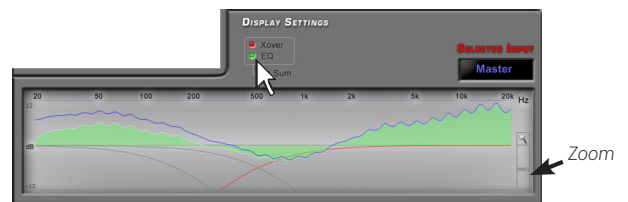

Fig.3
3. a blue line for the overall electrical response of the system, when multiple channels are selected (Fig.3) by clicking with the mouse on the **Xover** and **EQ** boxes;